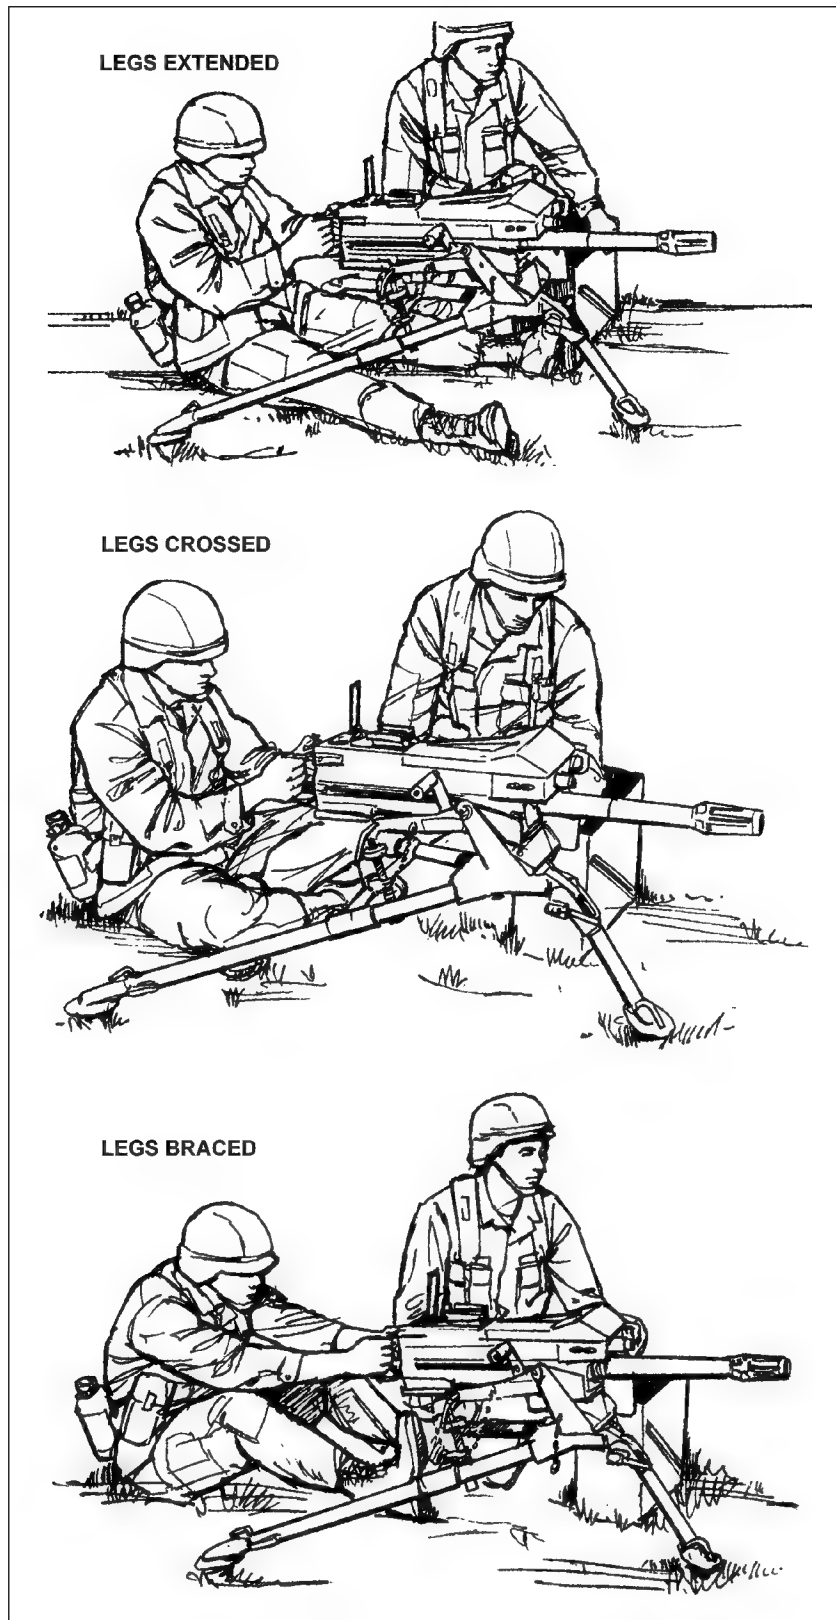

Figure 4-1. Seated firing positions.
- a. **Sitting.** When the tripod is used in the low or high position, sit directly behind the gun between the trail legs of the tripod. Extend your legs under the tripod, cross them, or brace your feet on the tripod (Figure 4-1). Place your elbows on the inside of your thighs for support when crossing your legs or bracing your feet on the tripod.